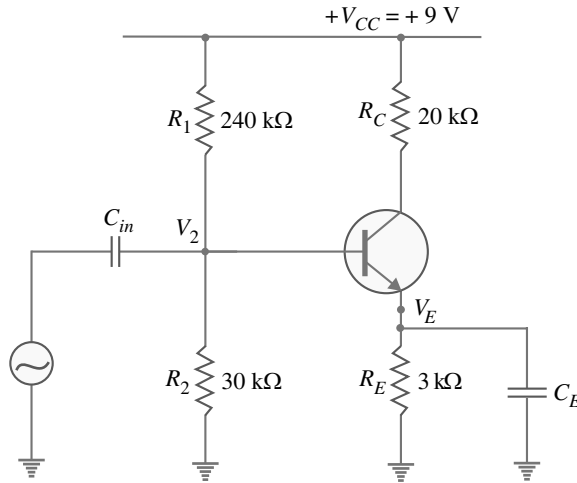

Fig. 8.37
**Example 8.20.** For the circuit shown in Fig. 8.37, find (i) ac emitter resistance (ii) voltage gain (iii) d.c. voltage across both capacitors.